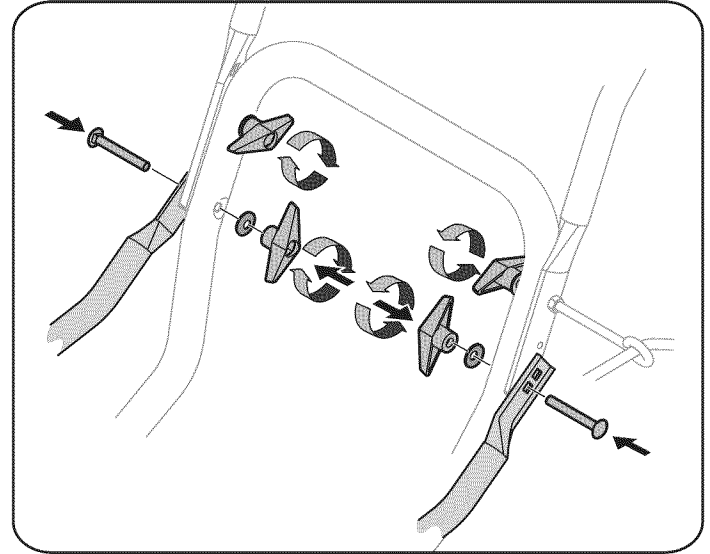

Figure 2
2. a. Secure the support bracket, upper handle and lower handle with the two wing knobs and carriage bolts removed earlier. See Figure 2.
- b. Tighten the two wing knobs already installed in the upper holes to firmly secure the upper handle and support tubes. See Figure 2.